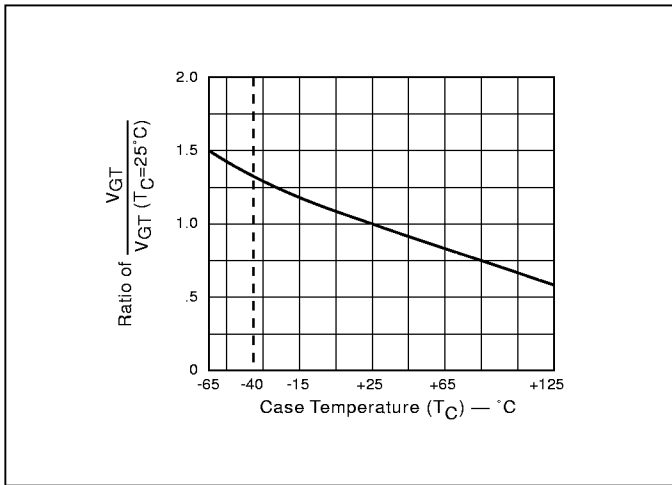

Figure 4.7 Normalized DC Gate Trigger Voltage for all Quadrants vs Case Temperature
- See Figure 4.7 for  $V_{GT}$  vs  $T_C$ .